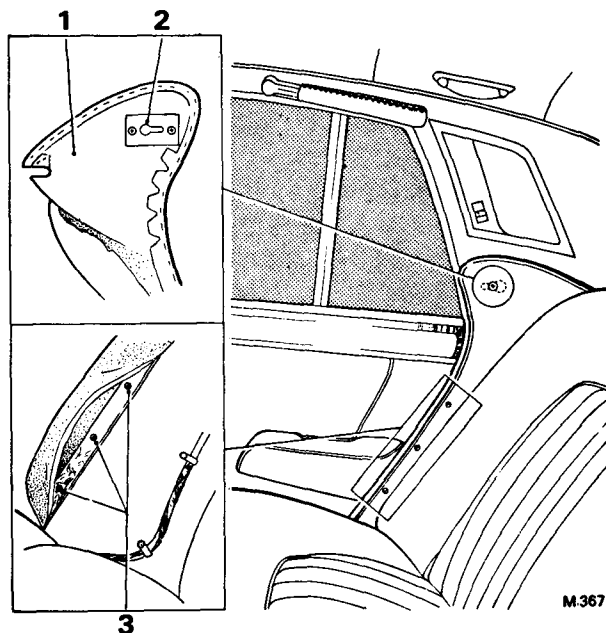

FIG. S111 POSITION OF THE REAR CHEEK PAD SECURING SCREWS (4-Door Saloon and Long Wheelbase Non-division Cars)
To remove the cheek pad fitted below the rear quarter panel on 4-Door Saloon and Long Wheelbase cars (see Fig. S111), proceed as follows noting that the removal procedure is the same for both cheek pads.
- 4. Grip the lower part of the cheek pad and free it from its position between the draught welt and the seat valance; as the lower part of the cheek pad is being lifted, ease the upper part of the pad away from the quarter panel then move it forward approximately $\frac{3}{4}$ in. (19,05 mm.) until the slotted bracket attached to the inside of the cheek pad is felt to free itself from the head of the Phillips screw (see Fig. S111).